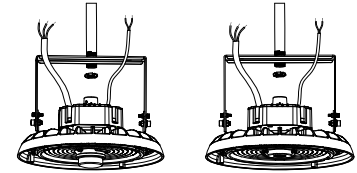

Fig 12
- Insert 1/2" NPT conduit into fixture bracket. (Fig 12)